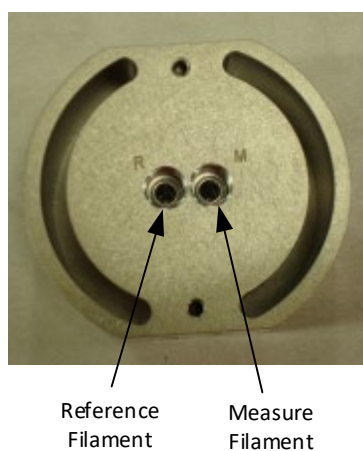

Fig. 8.13. Single-Port TCD Components
8.5.3 Single-port thermal conductivity detector (see Figure 8.13)